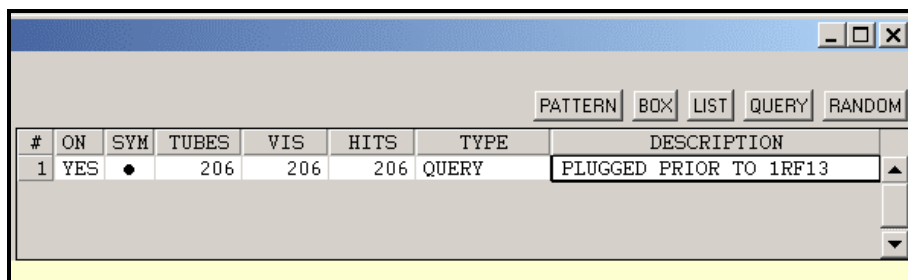

Figure 16-5. Changing the Description for an Entry in the Legend
- STEP 2:** Simply type-in the desired description. For our example, enter *PLUGGED PRIOR TO 1RF13* as shown in Figure 16-5.